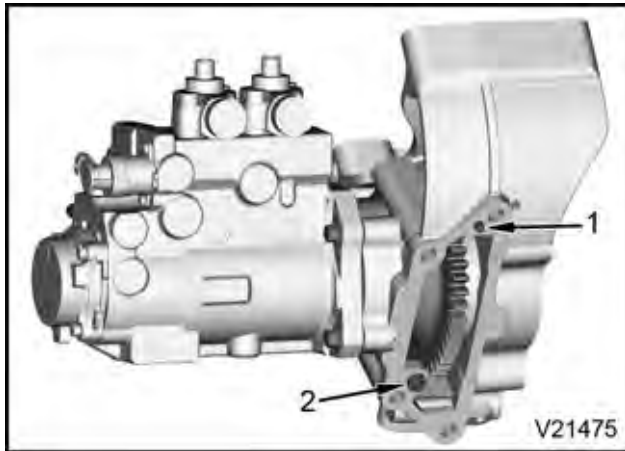

Figure 22. Dowel Pin and Sleeve Placement
8. Check that dowel pin and sleeve are properly seated in fuel pump drive housing or crankcase (Figure 22).